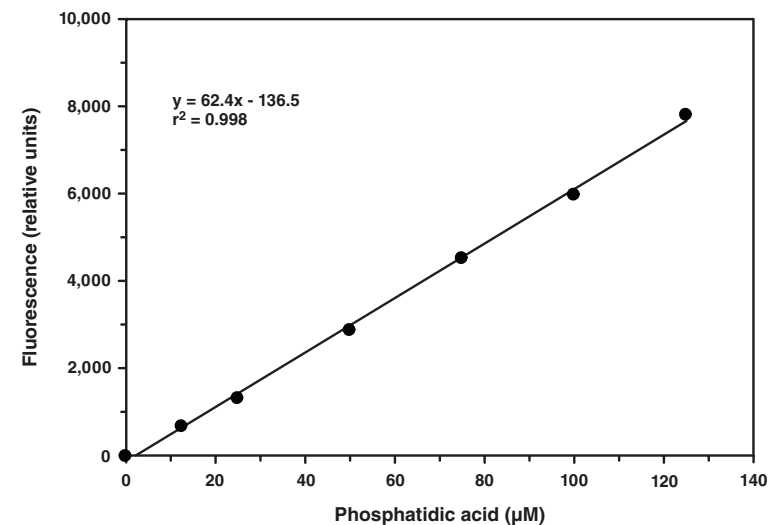

Figure 3. PA standard curve
2. Plot the corrected fluorescence values of each standard as a function of the final concentration of PA from Table 1. See Figure 3, on page 17, for a typical standard curve.